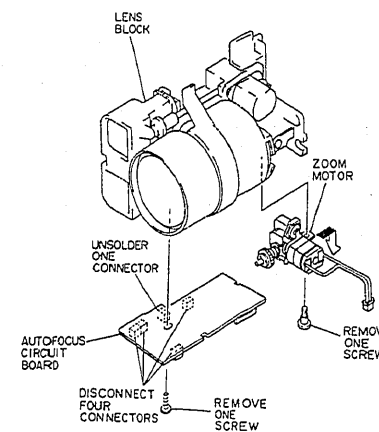

Fig. 2-101
- 1) Disconnect four (4) connectors (CN01AF, CN02AF, CN03AF, CN05AF) on the autofocus circuit board. (See Fig. 2-101)
- 2) Remove one (1) screw and remove the autofocus circuit board from the lens block.
- 3) Unsolder one (1) connector (CN05AF) on the autofocus circuit board.
(2) Zoom Motor
- 4) Remove one (1) screw and remove the zoom motor in the direction of the arrow from the lens block. (See Fig. 2-101)